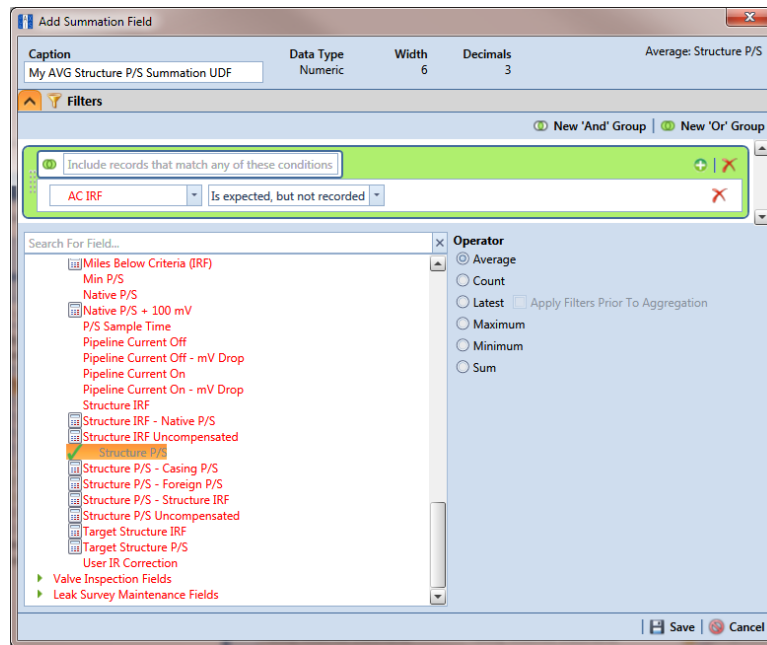

Figure 3-61. New 'Or' Filter
- b** Click  **New 'Or' Group** to open the filter properties group box (Figure 3-61).